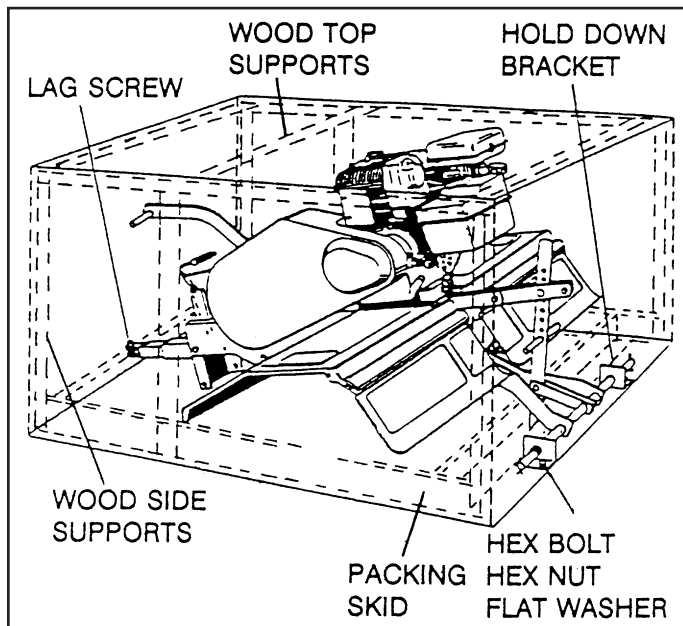

FIGURE 1
- Cut from top to bottom all four corners of the carton and lay panels flat. See figure 1.